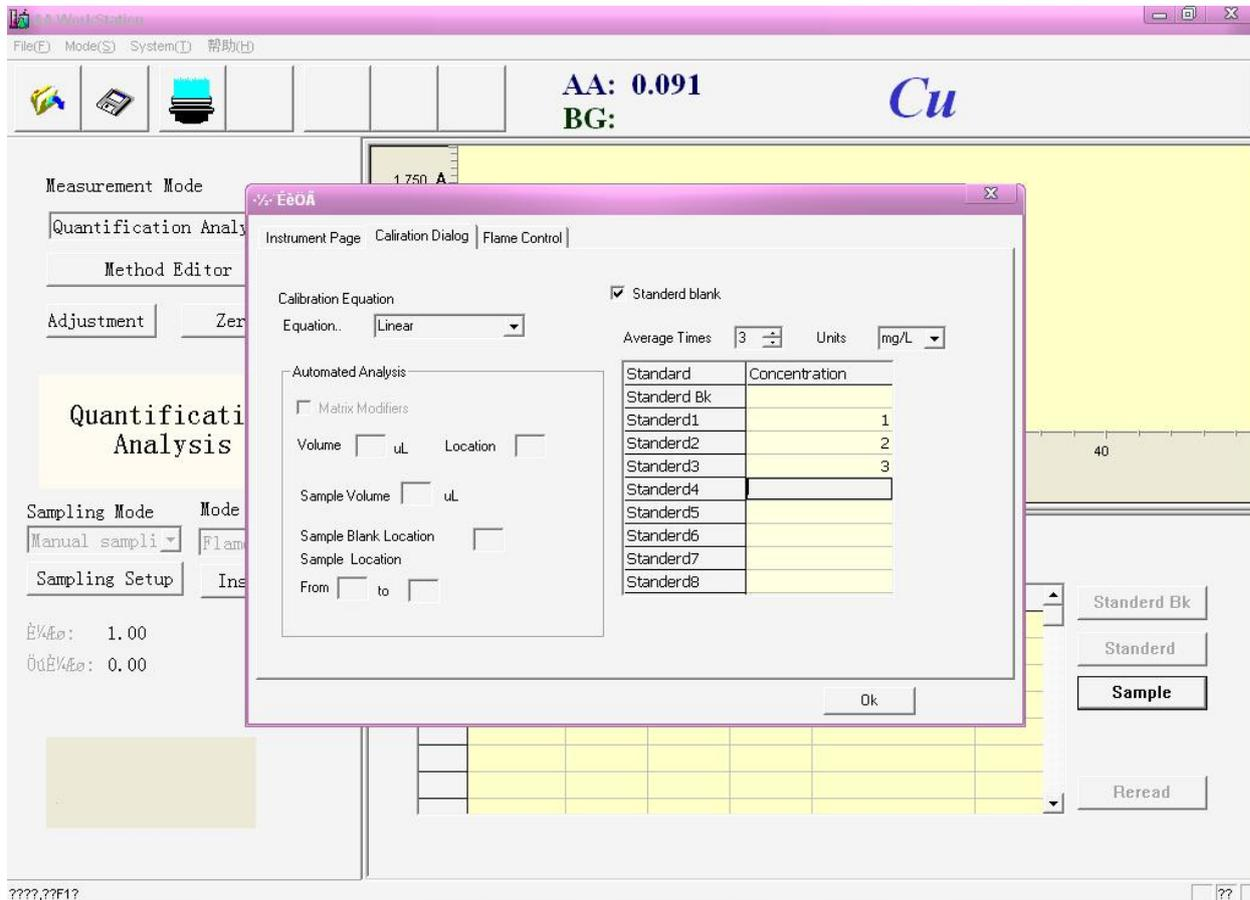

Figure 5-9
6. Select the “Linear” in the “Calibration Equation”, figure 5-9 (notice: at least input 2 standard samples)